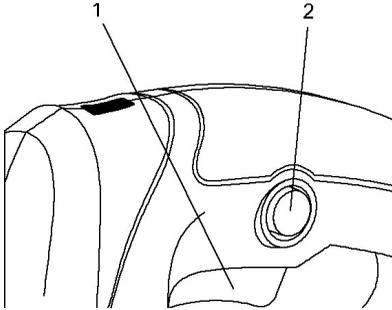

Fig. 3
Your jigsaw is equipped with a lock-on feature, which is convenient when continuous cutting for extended periods of time is required. To lock the switch ON, depress the trigger switch (1), push in and hold the lock-on button (2), then release the trigger (Fig. 3). Release the lock-on button and your jigsaw will continue running. Depress and release the trigger switch to release lock.